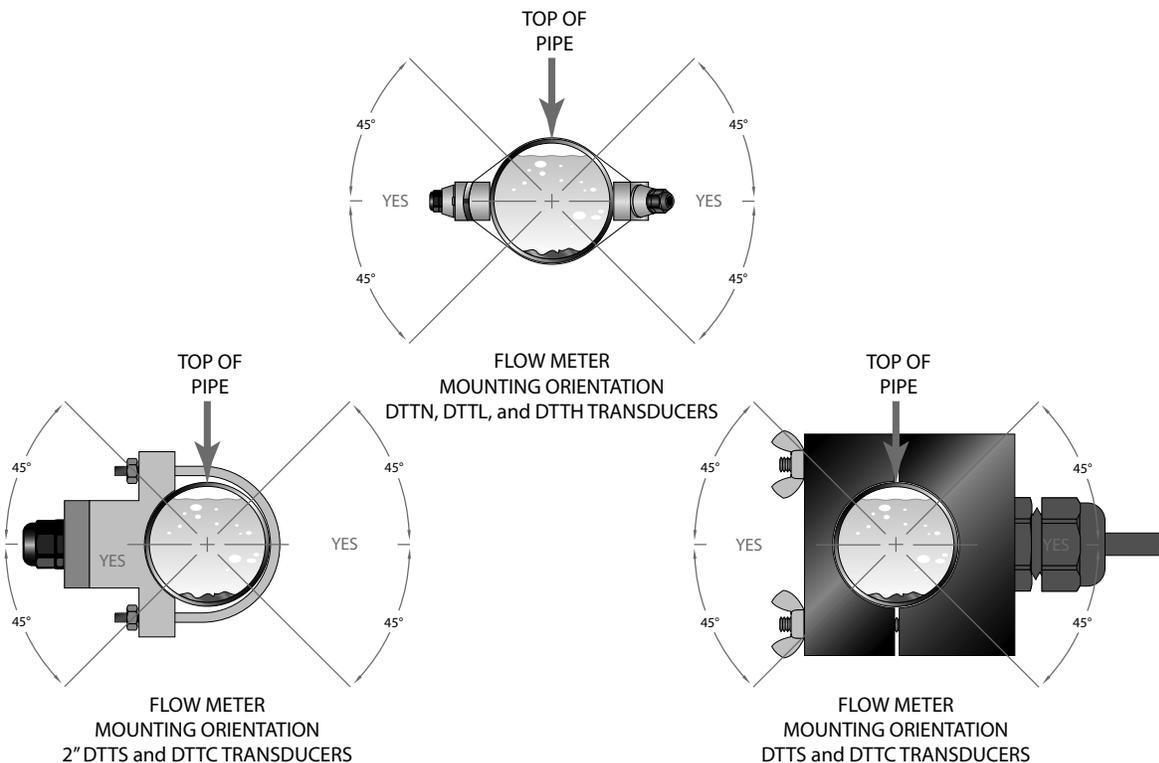

FIGURE 2.2 - TRANSDUCER ORIENTATION — HORIZONTAL PIPES
The DTTN, DTTL, and DTTH transducers must be properly oriented and spaced on the pipe to provide optimum reliability and performance. On horizontal pipes, when **Z-Mount** is required, the transducers should be mounted 180 radial degrees from one another and at least 45 degrees from the top-dead-center and bottom-dead-center of the pipe. See **Figure 2.2**. Also see **Z-Mount Transducer Installation**. On vertical pipes the orientation is not critical.
DTTS and DTTC transducers should be mounted with the cable exiting within ± 45 degrees of the side of a horizontal pipe. See **Figure 2.2**. On vertical pipes the orientation does not apply.
- 2) On horizontal pipes, mount the transducer in an orientation such that the cable exits at ± 45 degrees from the side of the pipe. Do not mount with the cable exiting on either the top or bottom of the pipe. On vertical pipes the orientation does not matter. See **Figure 2.2**.
- 3) Crease the paper at the fold line. Mark the crease. Place a mark on the pipe where one of the transducers will be located. See **Figure 2.2** for acceptable radial orientations. Wrap the template back around the pipe, placing the beginning of the paper and one corner in the location of the mark. Move to the other side of the pipe and mark the pipe at the ends of the crease. Measure from the end of the crease (directly across the pipe from the first transducer location) the dimension derived in **Step 2**, Transducer Spacing. Mark this location on the pipe.